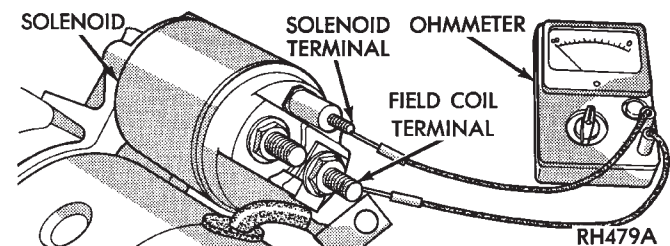

Fig. 7 Continuity Test Between Solenoid Terminal and Field Coil Terminal
(1) Disconnect solenoid field coil wire from field coil terminal.
(2) Check for continuity between solenoid terminal and field coil terminal with a continuity tester. There should be continuity (Fig. 7).